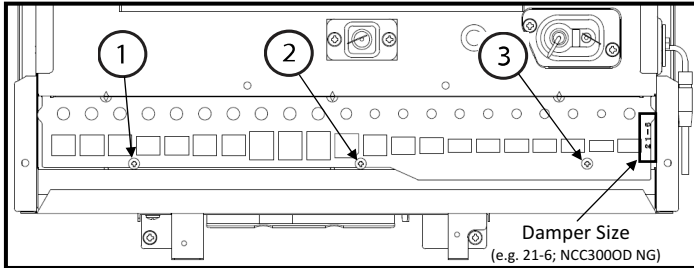

FIGURE 5
- 8) After manifold plate is removed, the existing damper will be exposed as indicated in FIGURE 5 below. Remove screws ①-③, and then pull the damper off the burner assembly. Check for proper size of damper with the chart below and replace with new damper that was included with your gas conversion kit.